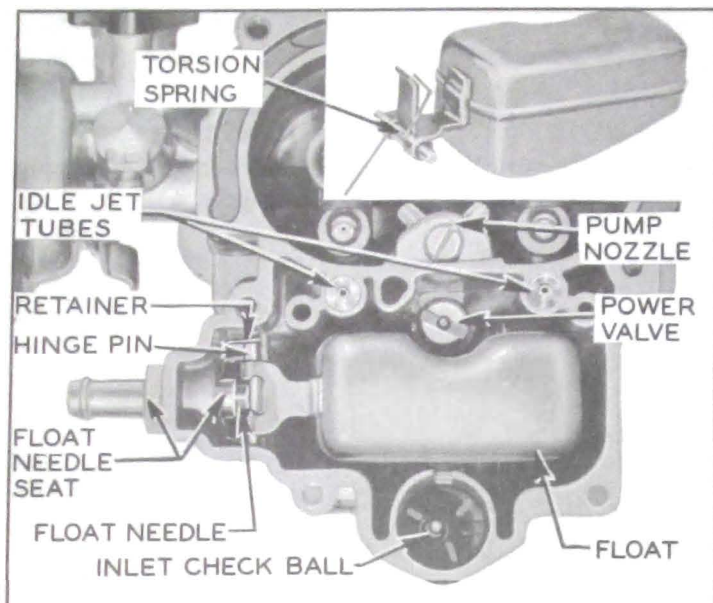

Figure 3-71—Main Body Parts
8. Remove float needle seat and connector fitting together with gasket and float needle. Remove float retainer. To aid when reinstalling torsion spring, note position of spring on hinge pin before lifting float from float bowl. Remove float, hinge pin, and torsion spring. See figure 3-71.
spring in proper position. See figure 3-71. Install float retainer clip using needle-nose pliers. Install float needle seat and connector fitting together with gasket and float needle.
10. Install idle jet tubes. Install accelerator pump check balls (use new balls if available); place large ball in plunger well and place small ball in discharge well. Install lower pump spring in plunger well. Install pump discharge nozzle and screw using new washer and gasket. See figure 3-71.